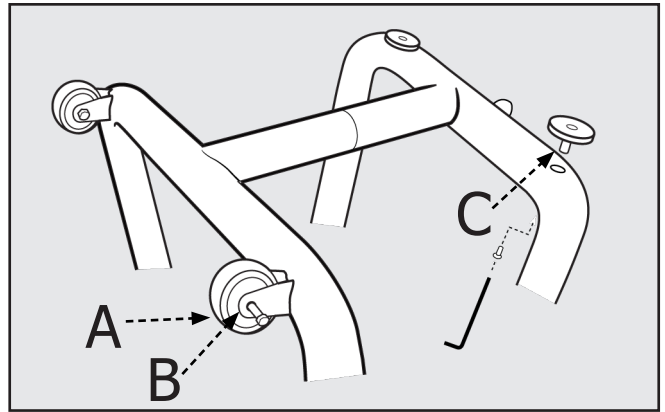
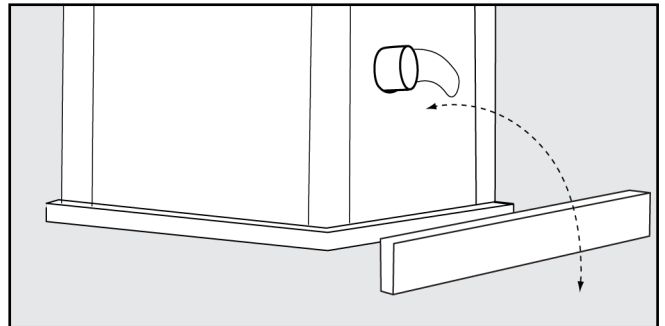

FIGURE 2
FIGURE 3
1. Attach the two fixed wheels (A) to the left leg using the carriage shoulder bolt as in Figure 2.
2. Screw the adjustable feet (C) into the threaded inserts in the right leg.
3. Lay a scrap piece of 2x4 on the back of the saw, as shown in Figure 3, to prevent damage to the dust chute when righting the saw.
5. The two adjustable feet (C) can be raised and lowered by rotating them. The feet may be adjusted to level the saw and locked in place with the locking set screws using a 6mm Allen hex wrench. See Figure 2.